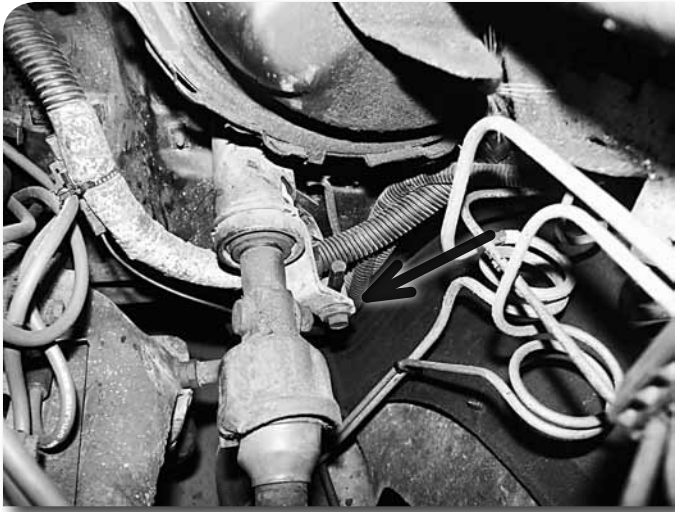

Figure 11
19. **92-94 Automatic Transmissions:** Remove the shift linkage connecting the steering column to the transmission **Figure 11**. Remove the retaining pin at the transmission and remove the linkage. Loosen the adjusting bolt and slide the rod out of the adjuster sleeve.